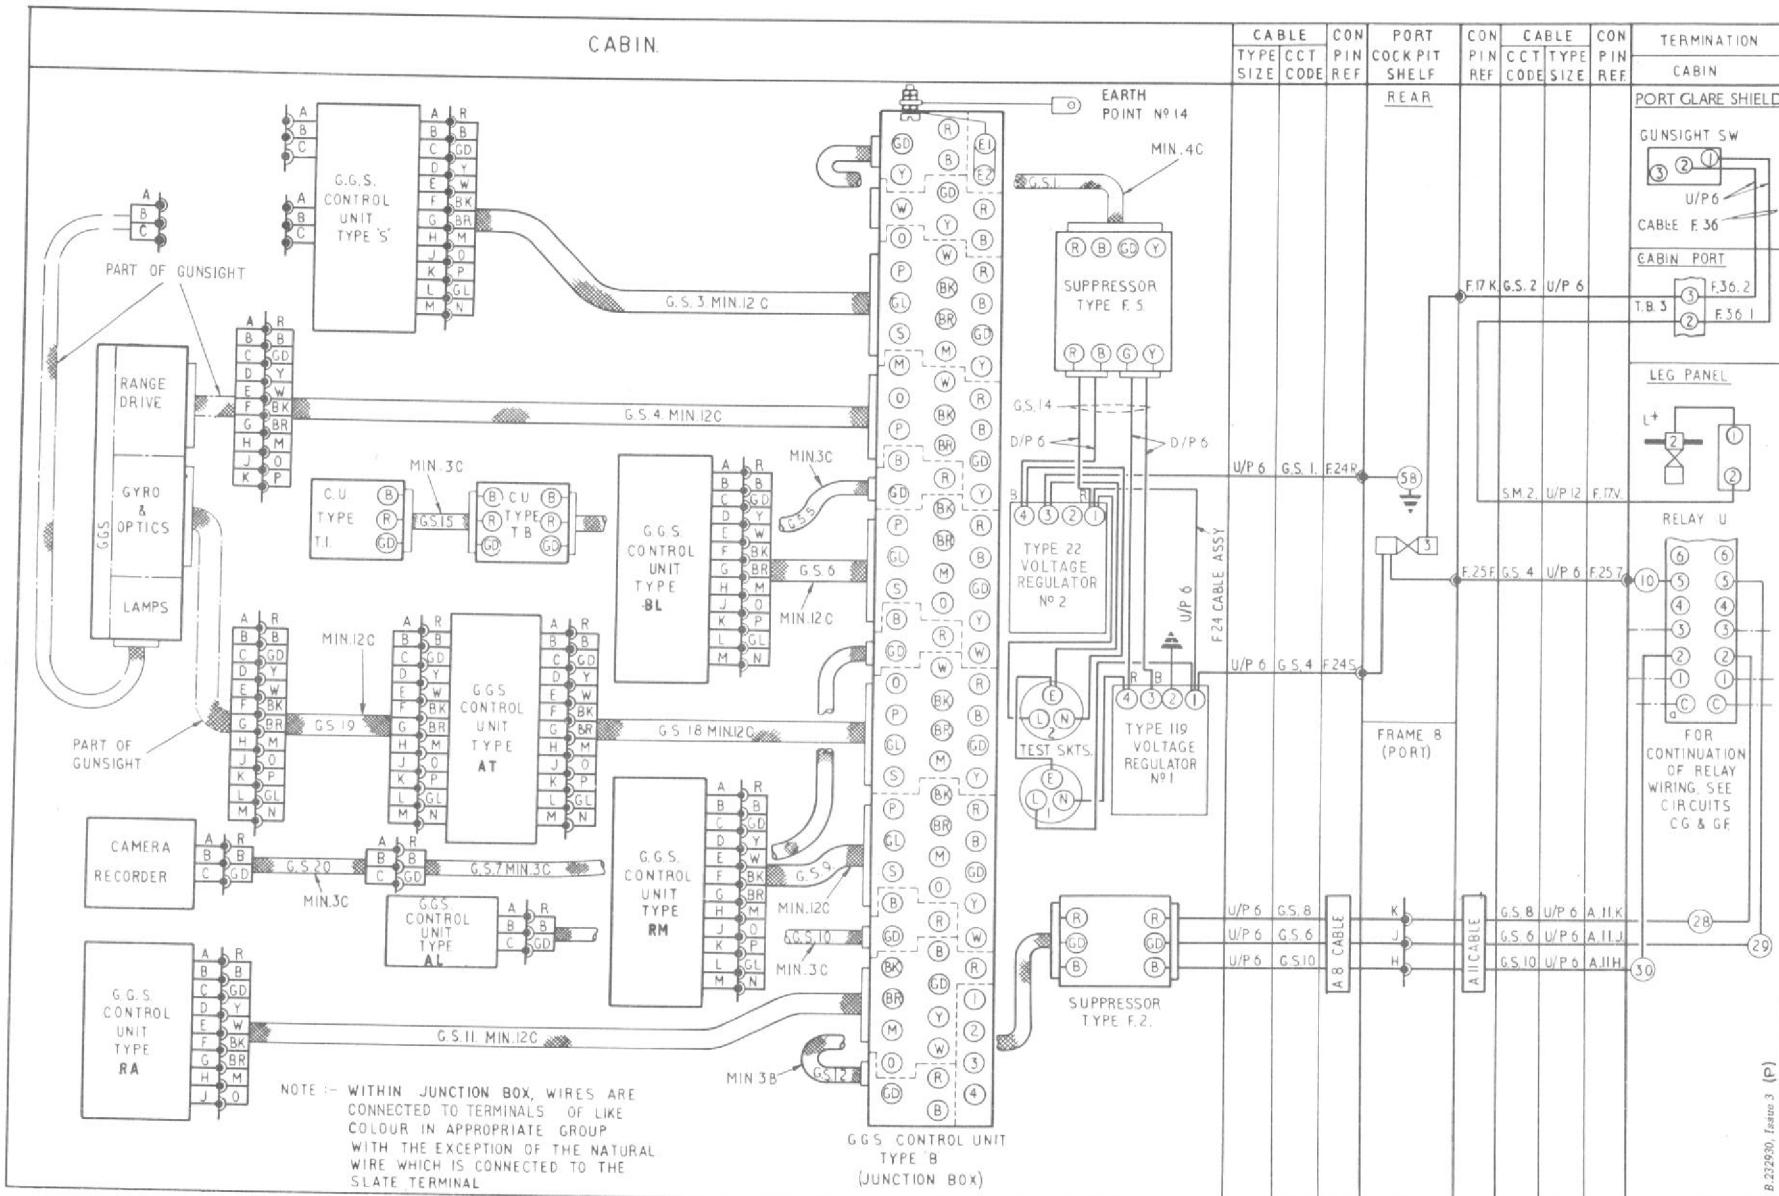

Fig. 1 Gyro gunsight and camera recorder (routing)
T.P.(E) 11530
8. To eliminate radio interference, the regulated supply is taken through a suppressor; this is mounted on a bracket situated adjacent to the voltage regulators. Fig.1 and 2 are routeing and theoretical diagrams of the circuits. Full descriptions of the gyro gunsight and its equipment will be found in A.P.1275E, Vol.1. Descriptions of the camera recorder, and of other equipment associated with the gunsight installation, will be found in the appropriate Air Publications listed in paragraph 2 of this group.